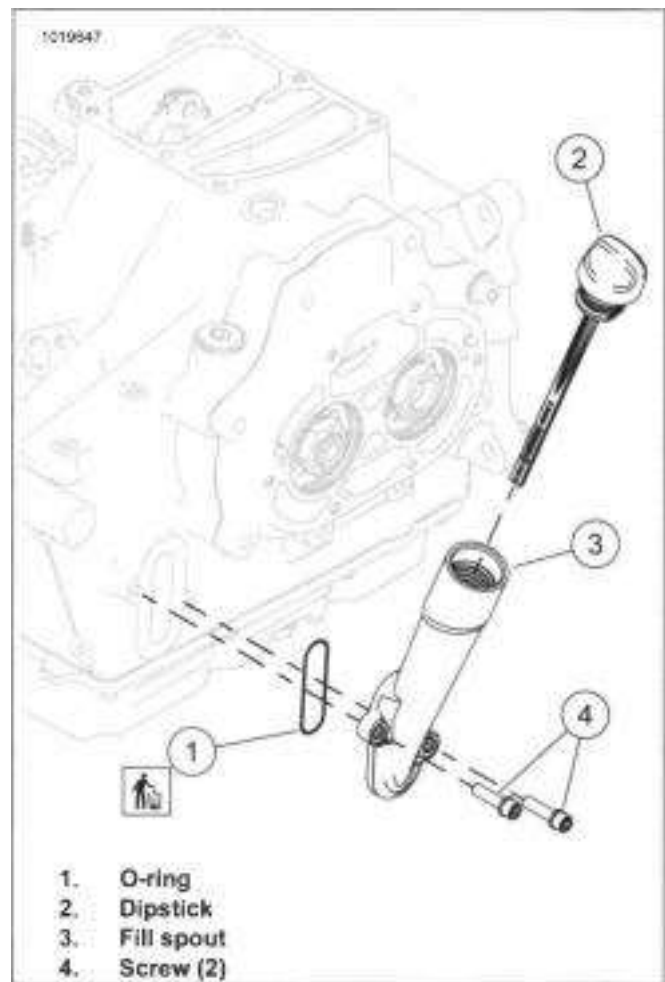

Figure 5-36. Engine Oil Fill Spout
1. See Figure 5-36. Remove screws (4).
2. Remove fill spout (3).
3. Discard O-ring (1).
1. See Figure 5-36. Install new O-ring (1).
- a. Install fill spout (3).
- b. Install screws (4). Tighten.